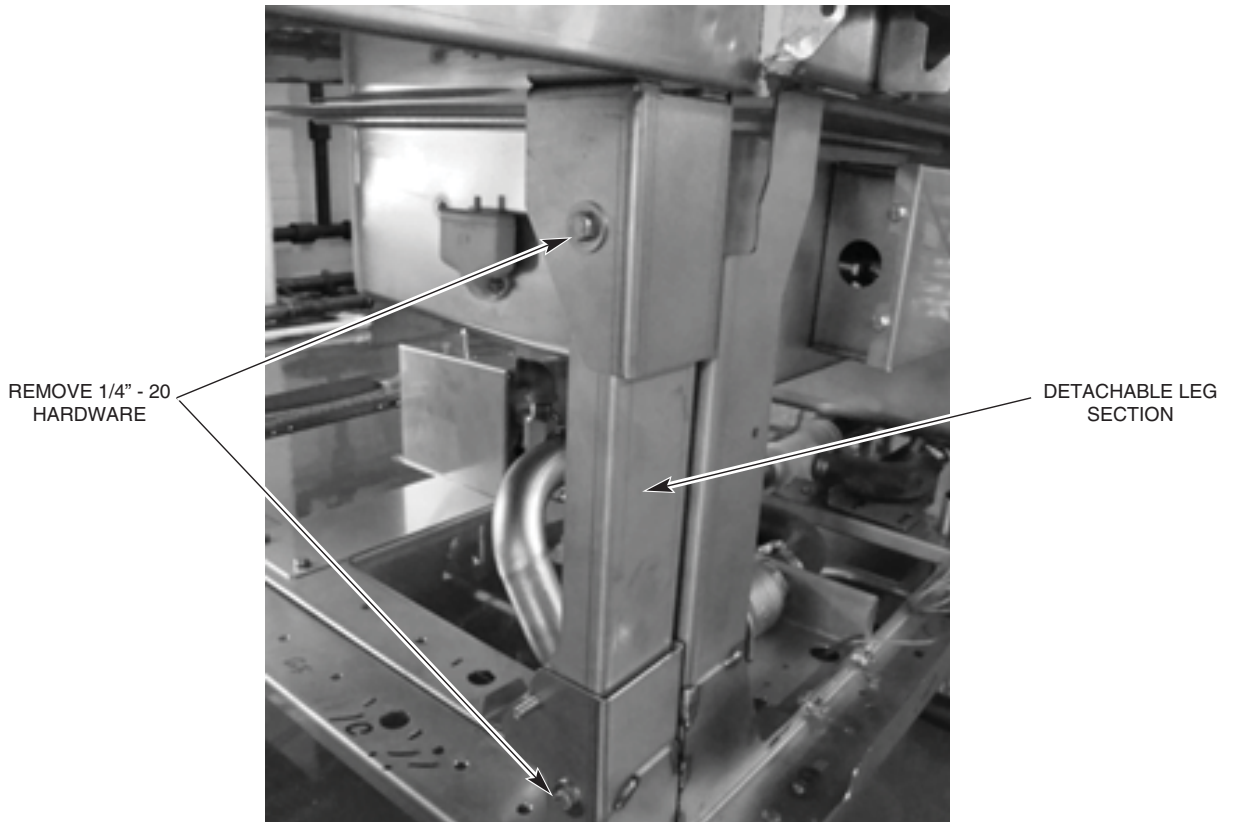

Fig. 5
2. Remove the detachable leg section on the front leg of the unload section where the control box will be mounted. This will allow the wires, which are preinstalled in the control box, to pass by the leg assembly freely (Fig. 5).